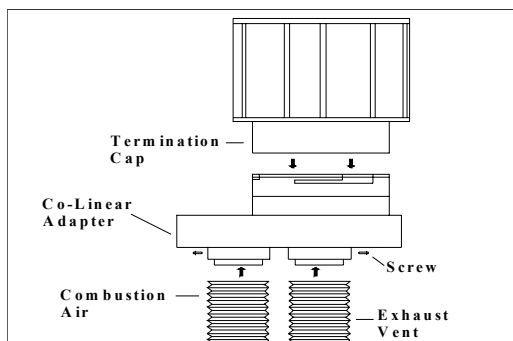

Figure 6 -Connecting the Co-linear Adapter
- 6) Attach the liner to the co-linear adapter (see fig. 6).